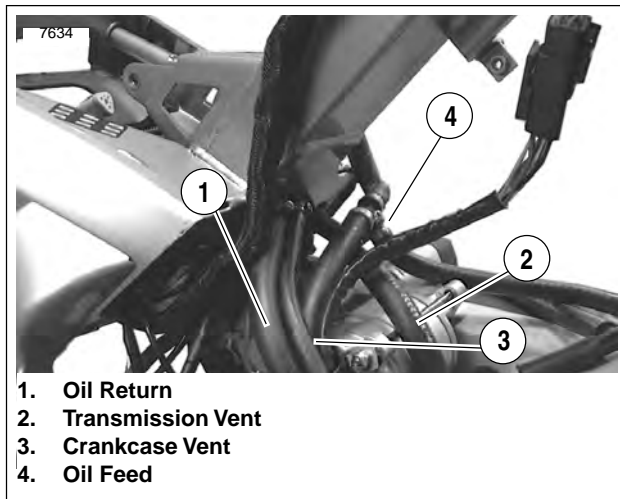

Figure 3-13. Disconnect Lines
27. See Figure 3-13. Disconnect feed, return, transmission and crankcase vent lines.